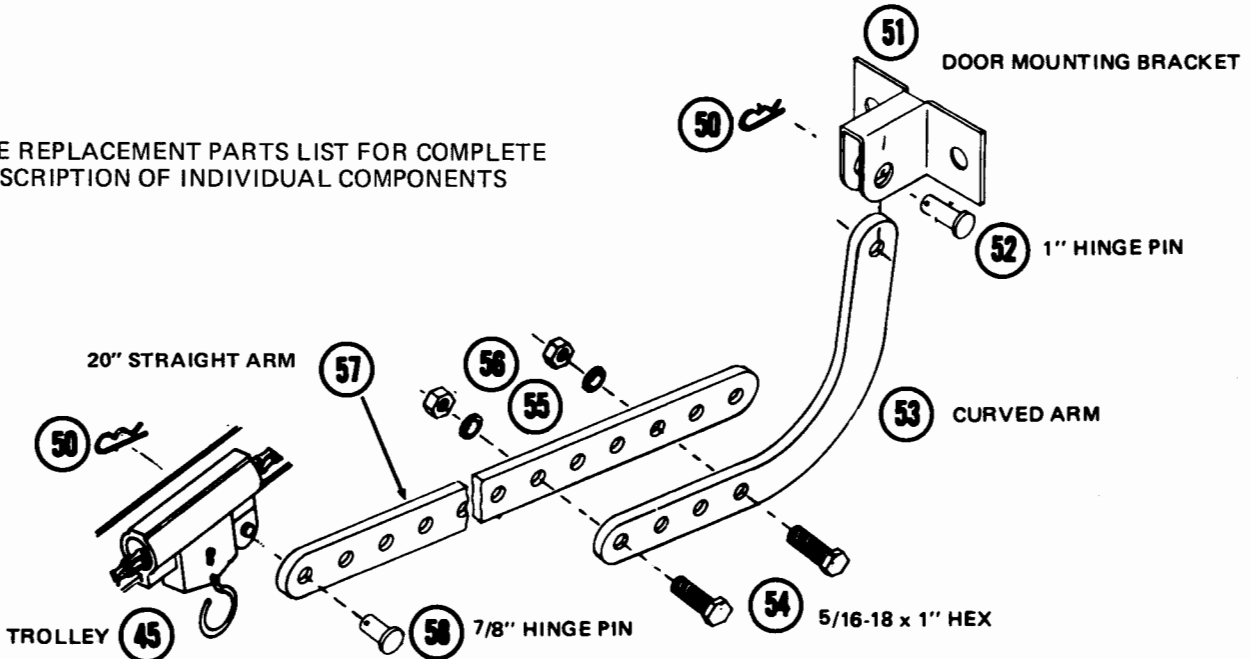

FIGURE 9: FRONT END/DOOR MOUNTING AND INSTALLATION HARDWARE
(7) The Chain Bracket (44) is not required for normal operation. If a Rubber Bumper/T Bar Clamp should fail to stop the Latch and Trolley, it would limit Chain and Latch Travel. Do not remove nor relocate the Bracket.
(8) The 3 inch Hinge Pin (49) permits free pivoting of the T Bar and Front Mounting Bracket in the Front Hanger Bracket (48). (Figure 9)